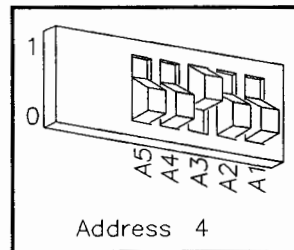

Figure 2-1.
- b. Set the address switches to 4 as shown in Figure 2-1, unless address 4 has been used elsewhere. Refer to the manual that came with the printer if you need additional switch settings.